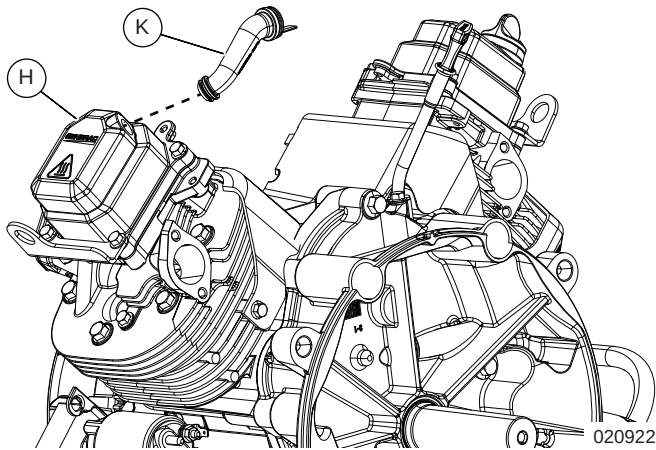

Figure 12-11. Install Breather Hose into Rocker Cover
5. See Figure 12-11. Install breather hose (K) into rocker cover facing PTO side of engine. Soapy water or spray silicone lubricant may be needed to fit breather hose into rocker cover hole.